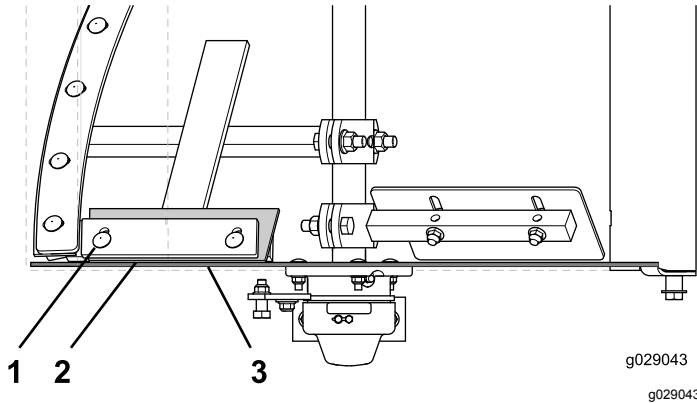

Figure 72
4. Loosen the carriage bolts and flanged locknuts that secure the paddle blade and wiper to the fixed paddle. (Figure 72)